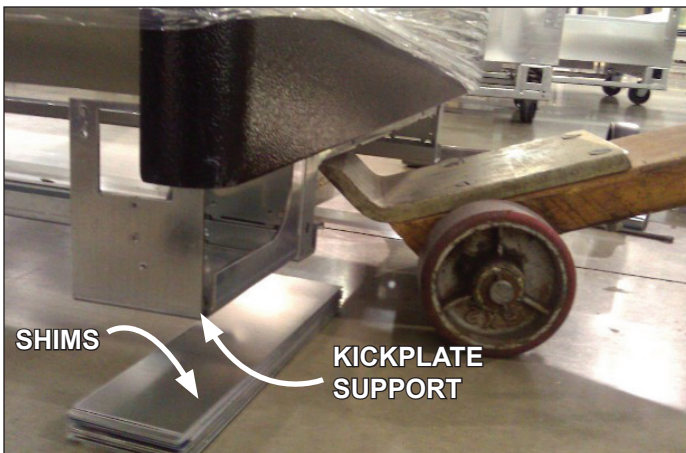

Fig. 1 Kickplate support
4. Locate basehorse positions along the chalk line. Spot properly leveled shim packs at each basehorse location. For narrow cases—ONRZ and ONRZH—place shim packs under both the basehorses and kickplate supports (Fig. 1).